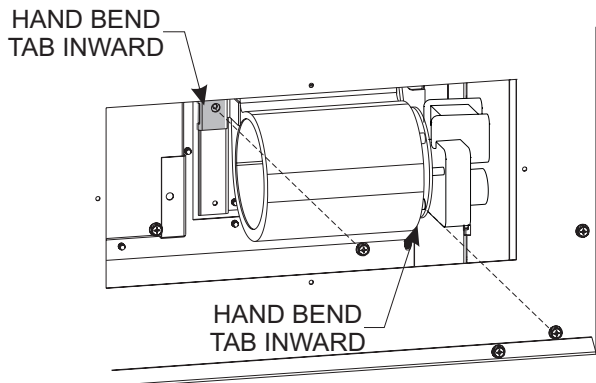

Figure 4
3. Bend tab as shown in (**Figure 4**) and secure with (2) screws.